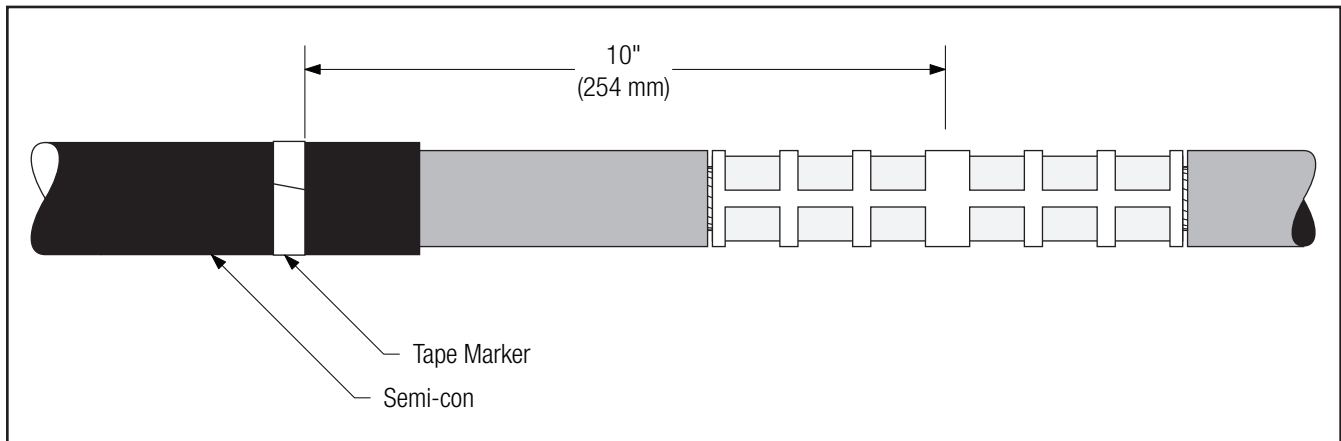

Figure 9
- 4.1 Apply a tape marker to semi-con insulation shield on cable which does not contain splice. Measure 10" (254 mm) from center of connector (*Figure 9*).